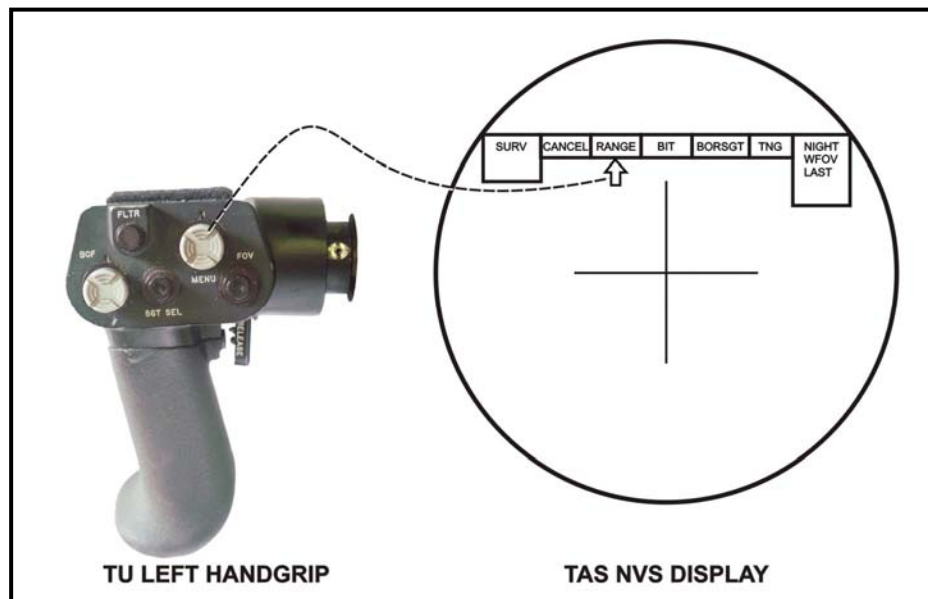

Figure 2-11. MENU switch and TAS display.
(5) **MENU Button.** The MENU button is a three-position push button. Pressing down on the center of switch calls up the main menu on the TAS display. Pressing down on the left or right side of the switch moves the cursor to the functions available. Pressing down on the center of menu switch while the cursor is on a function selects that function (Figure 2-11).